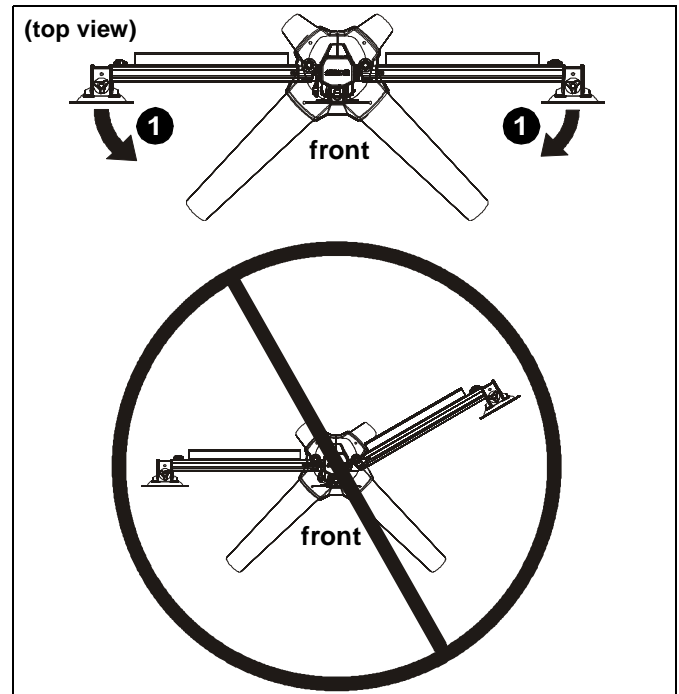

Figure 16
1. Array arms may pivot toward the front of mount up to 15° per arm. (See Figure 16)
**WARNING:** Pivoting array arms toward the back of mount may cause K3 Series mount to tip over causing serious personal injury or damage to equipment! Do not pivot arms toward back of mount! (See Figure 16)